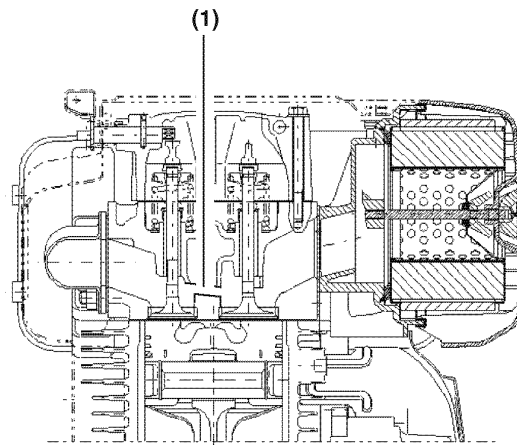

Figure 8-6
The L70V and L100V model engines incorporate a drilled passage (**Figure 8-6, (1)**) between the intake and exhaust valve pockets. The valves must be removed from the cylinder head to inspect the EGR passage. This passage allows some exhaust gases to flow back into the intake air and be re-burned in engine combustion to reduce emissions.